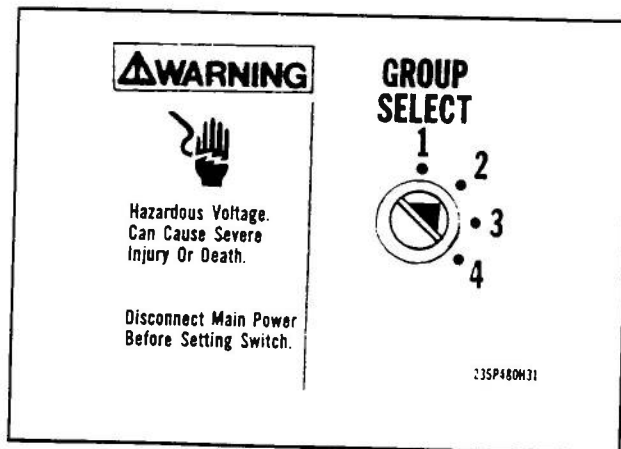

Figure 8 — Group Select Switch
Step 1 - Refer to system drawings and determine in which Horizontal I/O Rack the Module is to be placed. Set the Group Select Switch, located on the inside surface of the Rack backplane (See Figure 8 and Table A for switch settings).